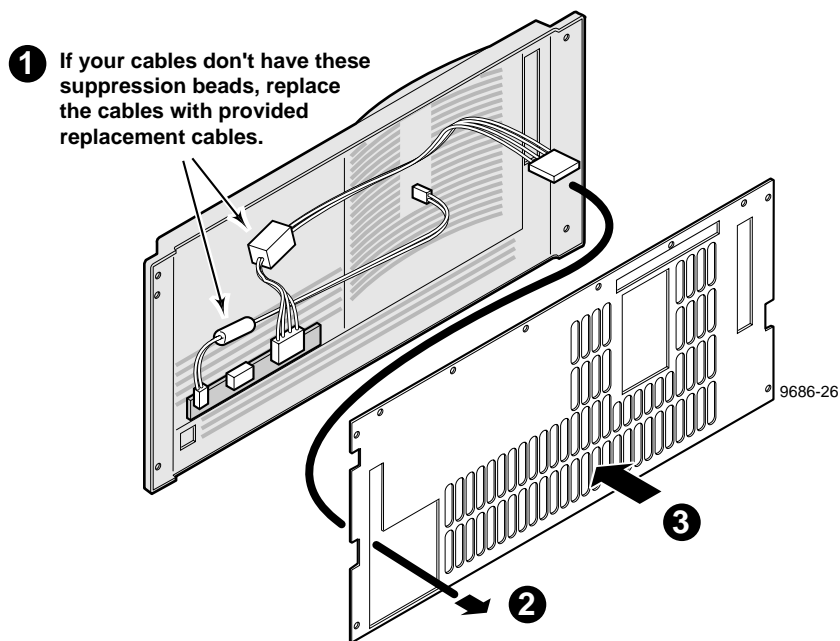

Figure 16. Rerouting the LED cable
4. If the small LED cable inside the front panel **does not** have an EMI suppression bead, remove the cable and install the supplied small LED cable which does have an EMI suppression bead (❶ in Figure 16).
5. If the LED cable **does not** have an EMI suppression bead, disconnect the other end of the LED cable from the LED circuit board mounted in the front panel and connect the supplied LED cable which does have an EMI suppression bead (❶ in Figure 16). Discard the old cable.
6. Run the LED cable out the bottom right side of the front panel through the same opening used for the On/Standby cable (❷ in Figure 16).
7. Being careful not to pinch any cables, position the backing plate on the front panel and install the six screws to secure the backing plate to the front panel (❸ in Figure 16). Tighten the screws.